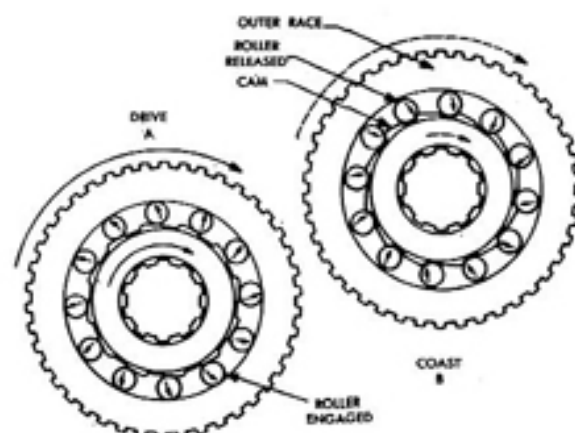

Figure 4.
surfaces by means of the roller cage and the roller cage spring. When a driving torque is applied against the cam, the rollers are forced outward into wedging contact with the outer race (**Fig. 4-a**), thus driving the car. Under such driving conditions, all the overdrive gears and their directly-associated control parts revolve together as a unit.
b. On the other hand, if the throttle is closed, removing the driving force, the rollers release their wedging contact (**Fig. 4-b**), permitting the roller clutch to overrun, with the mainshaft, pinion cage, and engine turning at a slower speed than the ring gear, output shaft, and propeller shaft. Under such conditions, the ring gear will turn faster than the pinion cage, and the sun gear will turn slower than the latter. In fact, the sun gear may turn forward, stand still, or turn backward, depending solely upon the relative speeds of the transmission main shaft, and the output shaft. If the former is turning at exactly 70% of the speed of the latter, (72% in the case of **R-11** type units), the sun gear will stand still; if it turns faster than this, relatively, the sun gear will turn forward; and if it turns slower, the sun gear will turn backward. If the engine is idling with the car moving forward, this reverse rotation may be quite fast.